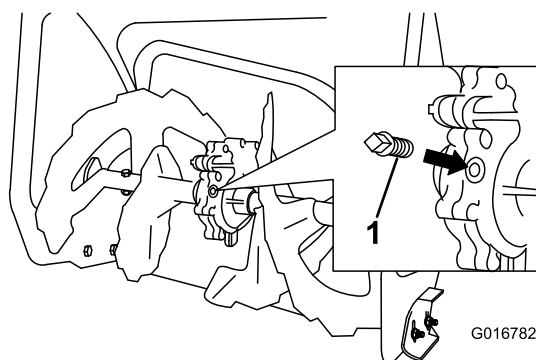

Figure 48
- Clean the area around the pipe plug (Figure 48).